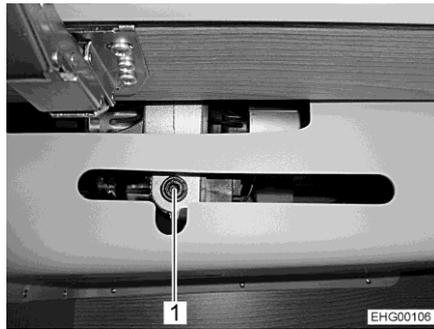
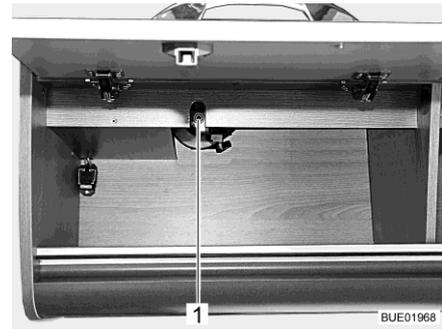
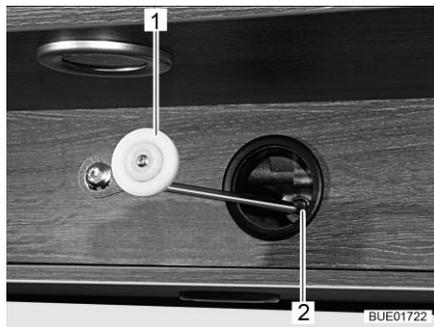

Fig. 142 Access to drive (Ixeo T)
Fig. 143 Access to drive (Lyseo T)
Fig. 144 Mechanical operation, drive
- If the holder (Fig. 142,1 or Fig. 143,1) for the drive is installed in the wall-mounted cupboard: open the wall-mounted cupboard.
- Insert the crank (Fig. 144,1) provided or an Allen wrench into the accommodation on the motor (Fig. 142,1 or Fig. 143,1 and Fig. 144,2).